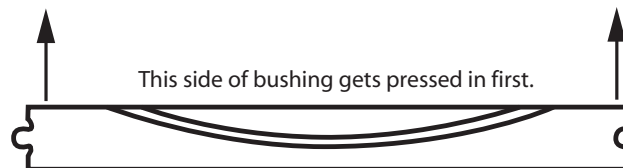

Figure 2
2. Position the bushing onto the installation tool so that the lube groove channel openings get pressed in first (see Figure 2).